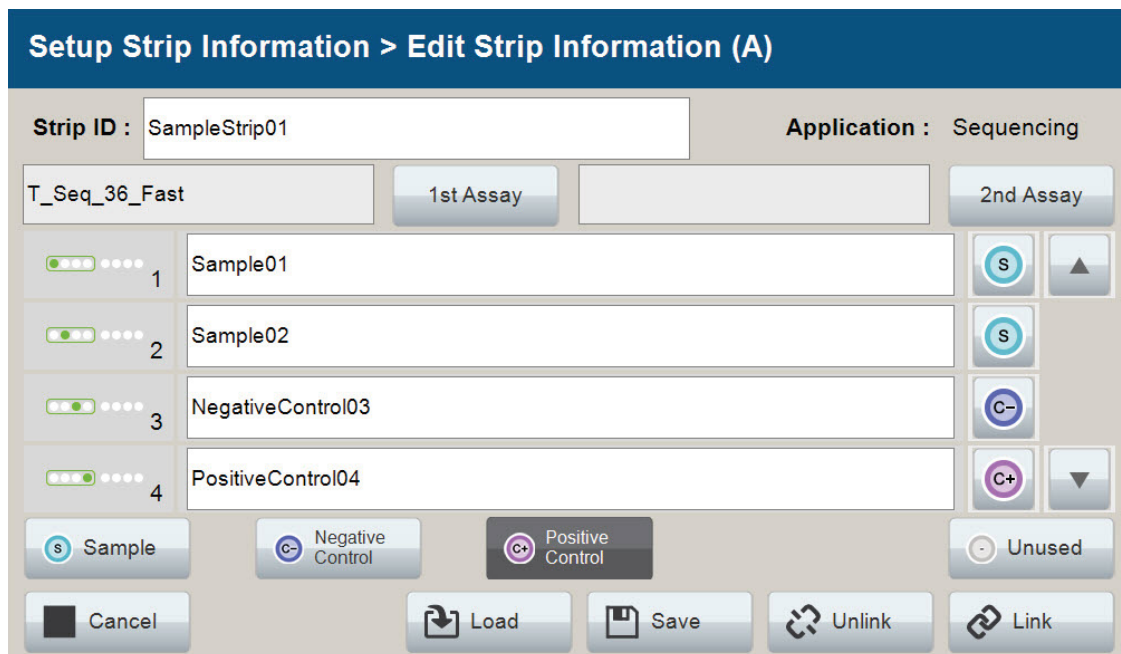

Figure 18. Completed 'Edit Strip Information' screen.
11. When all information is entered and verified for the strip, select **Link** on the lower right corner of the 'Edit Strip Information' screen (Figure 18). This will link the strip to the run. If you want to save the strip information to use in future runs, save the information by selecting **Save** at the bottom of the 'Edit Strip Information' screen (Figure 18). This will save the strip information so that it can be loaded later into another run as well as save the strip to the run. Refer to the *Spectrum Compact CE System Operating Manual #TMD058* for use of saved strip information.